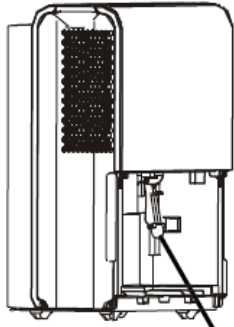
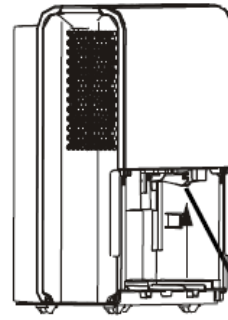

Fig.7 Pump hose drops
Fig.8 Reinstall pump hose properly
- If the pump hose drops when you remove the bucket (see Fig.7), you must reinstall the pump hose properly to the unit before replacing the bucket into the unit (see Fig.8).